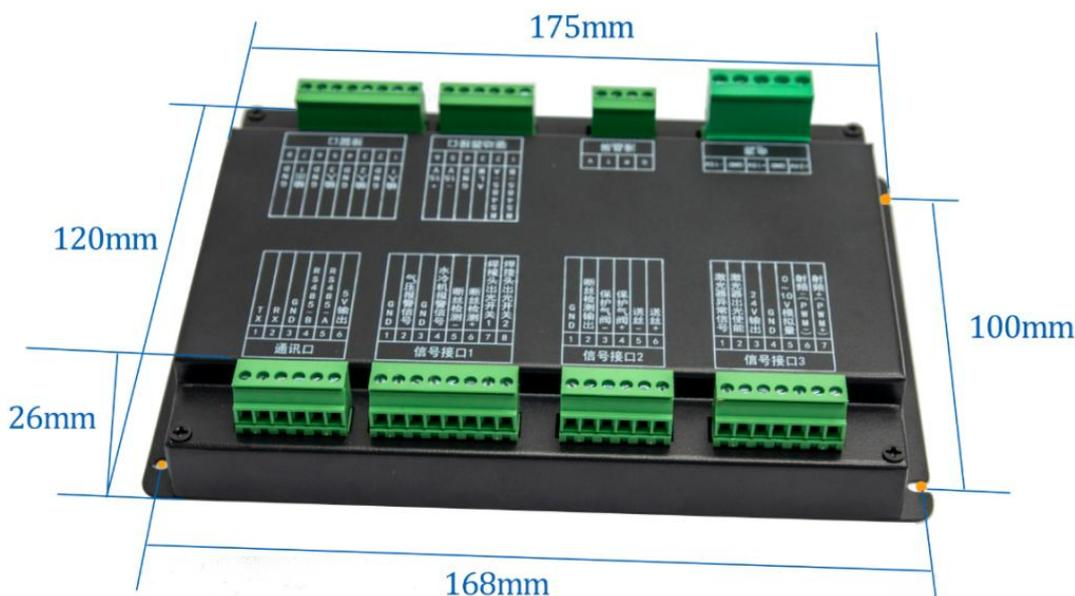

Figure 3.1 Dimensional drawing of controller
- ① [Broken Wire Detection-] and [Broken Wire Detection+] should be connected to the lower end of the gun head and the workpiece separately and independently. The wire is considered unbroken when both ends are connected.
- ② When wiring the host computer, keep the [welding head out of the light switch 1] [welding head out of the light switch 2] and [RS485-A] [RS485-B] [GND] connection can control the equipment welding. The [reserved port] and [broken wire detection output] are extended functions, whether they are connected or not does not affect the welding function of the equipment. Please selective wiring according to the use of demand and the actual interface of the host computer.
- ③ To avoid abnormalities in the power used by the equipment, the ground wire of the switching power supply must be effectively grounded! The switching power supply case must be grounded!
- ④ The icons used in Figure 3.1 refer only to a certain type of equipment and do not specifically refer to the corresponding product.